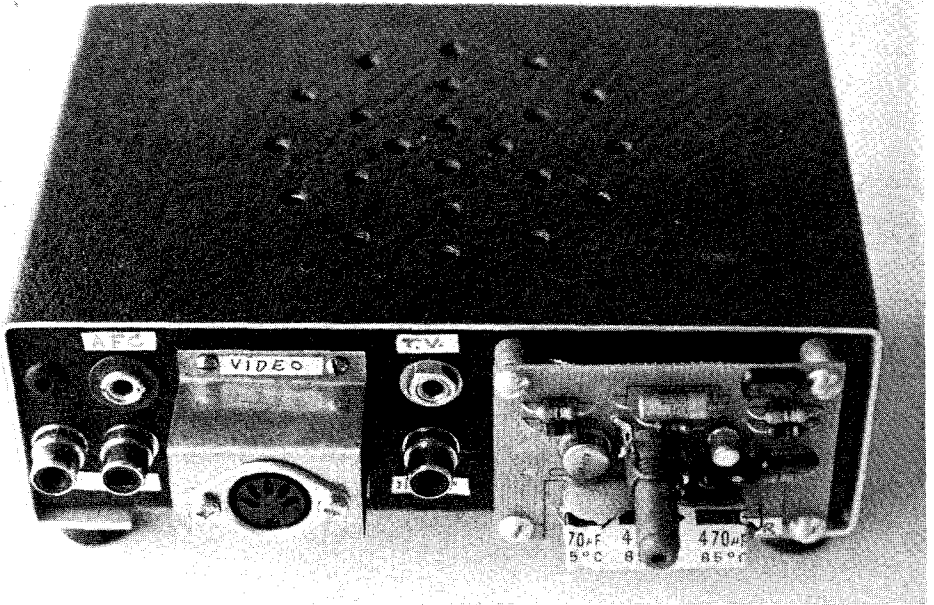
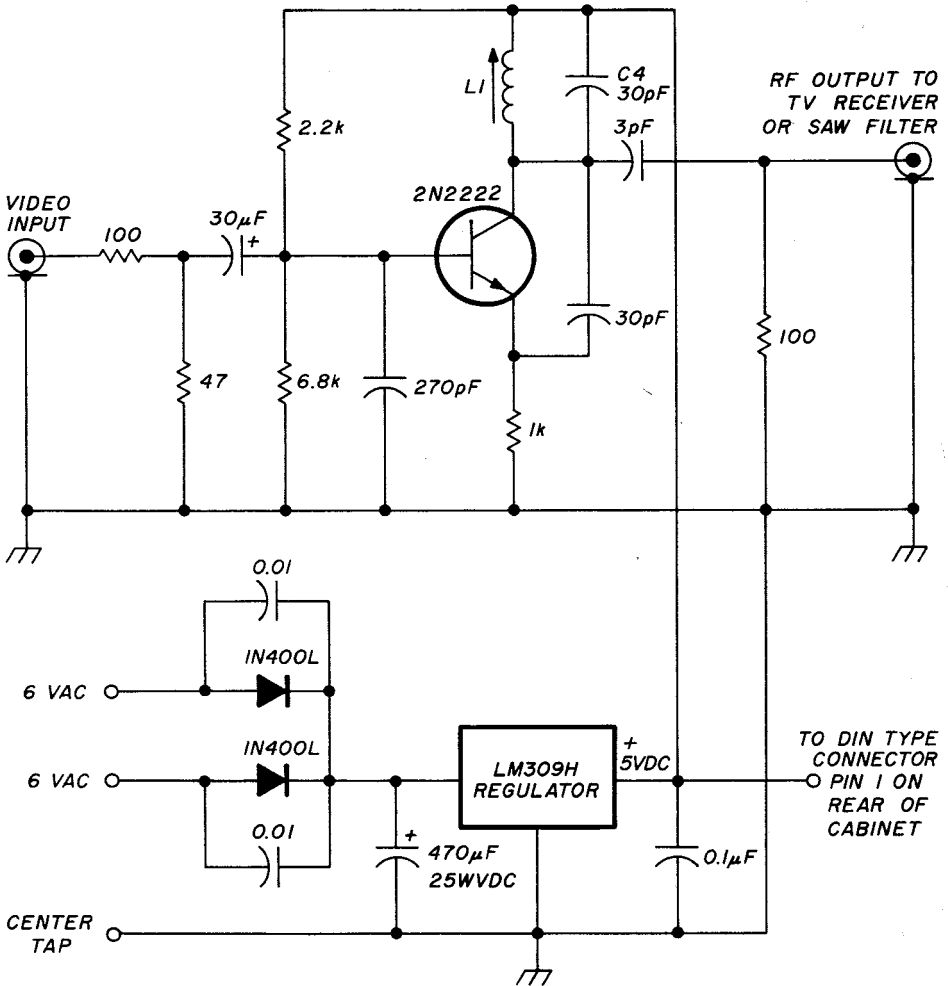
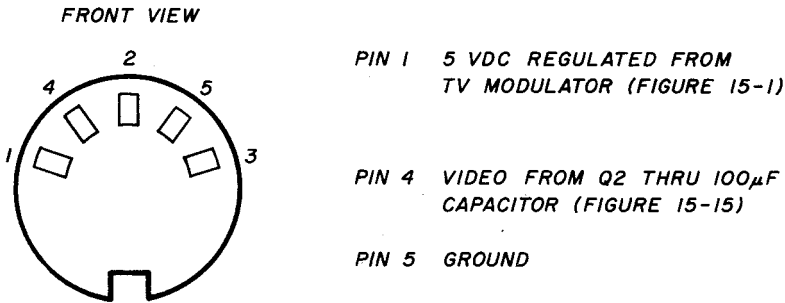

Figure 15-8.
Figure 15-11.
Figure 15-16.
holes and coax holes are then drilled in the shields. Now, solder the shields in place (both sides). The $15\text{-}\mu\text{H}$ decoupling rf chokes between each i-f stage in the 12-Vdc line in *Figure 15-8* are for the 45-MHz centered i-f. Should you choose to use the 113-MHz centered i-f, use the $1\text{-}\mu\text{H}$ rf chokes. Both are available from Hamtronics as separate items if you don't wish to roll your own.
LM309H 5-volt dc regulator. The schematic is shown in *Figure 15-11*.
The values shown for L1 and C4 in *Figure 15-11* are for nominal output on TV channels 2 or 3, but by substituting a 20-pF mica capacitor and adjusting the size of L1, channels 4, 5, or 6 are easily tuned. I used a ¼-inch (6.4-mm) diameter phenolic (paper) slug-tuned coil for L1 (see *Figure 15-8*) with 3 ½ turns of number 26 (0.4 mm) insulated hookup wire, and I can tune TV channels 2, 3, or 4 with the ferrite tuning slug.
The bottom ½ inch (12.5 mm) of the rf oscillator-modulator PC board is sawed off so it will fit onto the rear of the Poly Paks box, shown in *Figure 15-8*. Good engineering practice would be to put it in a well-shielded box of its own, so your neighbors wouldn't be able to enjoy your channel 3 or 4 machinations regardless of whether they wished to or not. As I have no neighbors nearby and ran out of black-box space with which to shield it, I took the lazy route and mounted it on the rear of the discriminator cabinet in the open.
The 1N4001 rectifiers and 0.01 microfarad or μF discaps shown in *Figure 15-11* are not used. The 12 Vdc input is fed to the junction of the plus side of the 470- μF electrolytic cap and the input side of the LM309H 5-volt regulator. The PC board is mounted on the box rear with ¼-inch (12.5-mm) spacers and 6-32 by ½ inch (M3.5 by 12.5 mm) long bolts in each corner.
The rear panel of the discriminator/video/AFC box is an extremely busy place, so both words and pictures are used to describe it. Refer to *Figure 15-8*. The insulated mini-phone jack marked AFC above the two 12-Vdc phono jacks is for the line from the system control module AFC jack. The inner conductor goes to the Gunnplexer varactor, and the outer conductor is from the SCM coarse- and fine-tuning controls. This AFC jack on the rear panel is connected to the AFC on-off switch with the varactor line to the switch center terminal, SCM varactor tuning is connected to the top switch terminal, and the video AFC amplifier output to the bottom terminal. The U bracket for the TRS-80 video display DIN-type connector (marked video) is wired as illustrated in *Figure 15-16*.
The video i-f input RCA phono jack is mounted directly beneath the TV output mini-phone jack as shown in *Figure 15-8*. A short 2- to 3-inch (50- to 76-mm) length of RG-174/U mini-coax should be run between this jack and the last-stage i-f amplifier input. Drill a ¼-inch (3-mm) diameter hole through the rear vertical shielding soldered to the baseplate and pass the coax through. Be sure to solder the outer coax braid to the vertical shielding.
audio when the Gunplexer receiving end of the circuit is using the TV oscillator/modulator illustrated in *Figure 15-11*.
3. With the TV receiver fine-tuning control set at midrange, adjust L1 on the rf modulator *Figure 15-11* so that the TV receiver noise, sparklies, whites out completely on the channel of your choice. Channel 3 is used in this example, but any channel from 2 - 6 may be used.